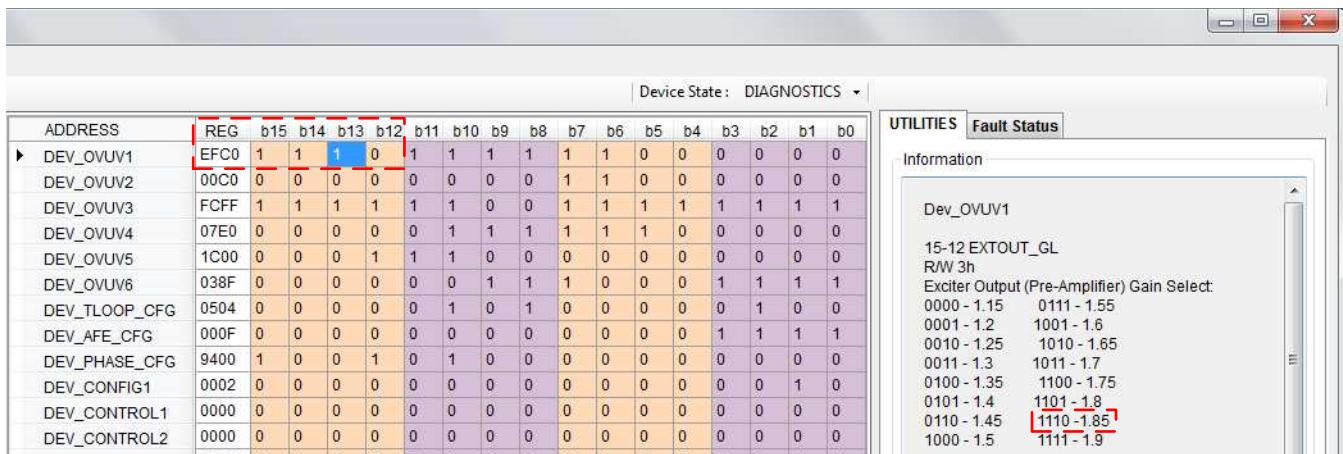

Figure 20. Exciter Amplifier Gain Change Using Memory Map
- Step 6. Click the b14 and b13 bits to change the value inside the cell. To change the exciter preamplifier gain from 1.5 V/V to 1.85 V/V , update the value of bits b15 through b12 to 1110 and write this register to the PGA411-Q1 device using the *Write Selected* button as explained in Section 2.3.4.1. New bit values appear as shown in Figure 20.